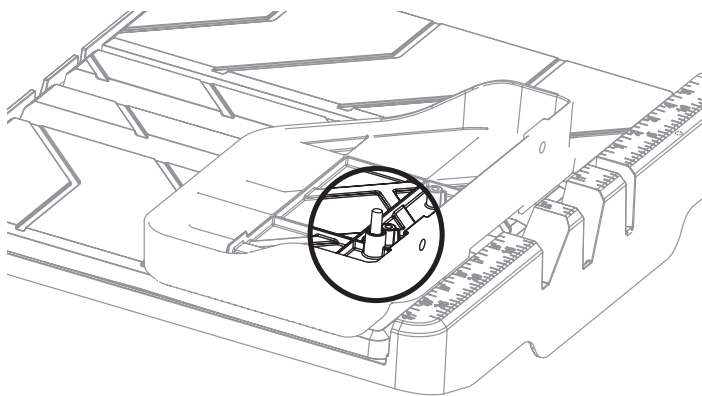

Fig. 48
1. Remove the extension table and invert it on the work table. Align the hole in the extension table with the hole in work table, pull out the pin attached to the extension table, and lock the extension table on the work table by inserting the pin into the holes (Fig. 48).